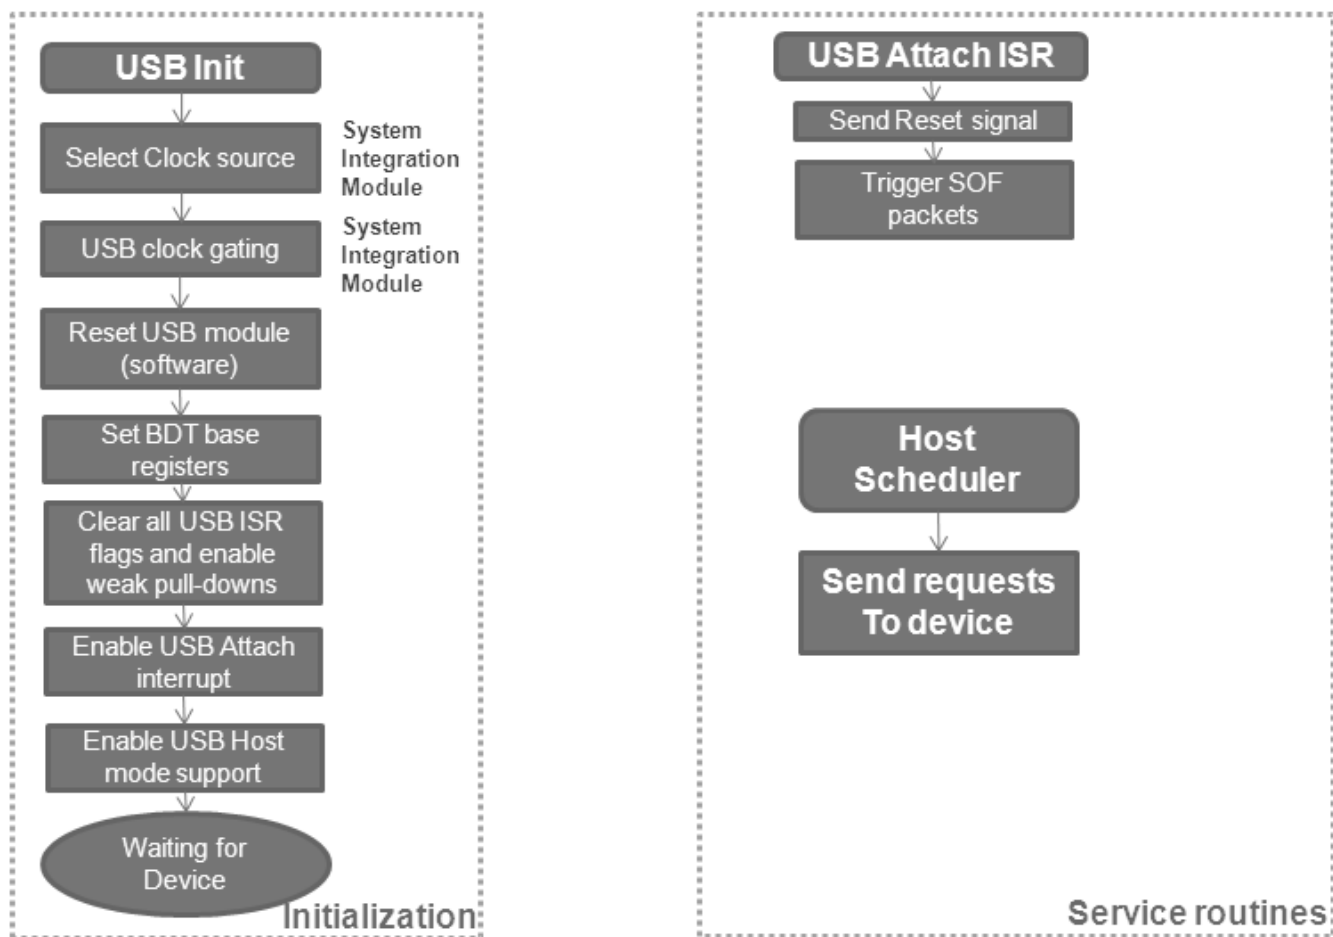

Figure 9-7. Host mode initialization flow
- Host mode initialization:** To enable host support, one bit needs to be set. This enables 1-ms SOF (start of frame) generation in the USB module. When a pullup is detected in the D+ or D- signal, the module generates the attached interrupt, which indicates that one device is attached to the bus and the enumeration process must start. Figure 9-7 shows the initialization flow diagram of the USB module in Host mode.